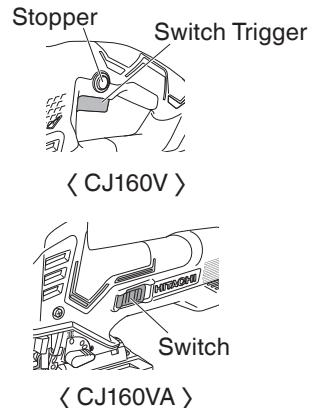

Fig. 10
- (1) Position the unit at a right angle to the surface (0-degree incline).
- (2) Holding the chip cover's guide section open by hand, push into the main unit.
- (3) Insert the chip cover's catches into the main unit's slots.
- (4) When detaching, spread the catches of the chip cover and draw them out from the main unit's slots.
13. Switch Operation (Fig. 10)